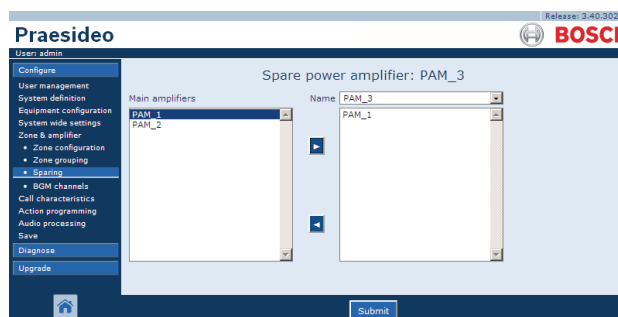

figure 46.11: Sparing, step 1
- 1 Go to *Configure > Zone & amplifier > Sparing*. A screen similar to the one in figure 46.11 appears in the main frame of the web interface.